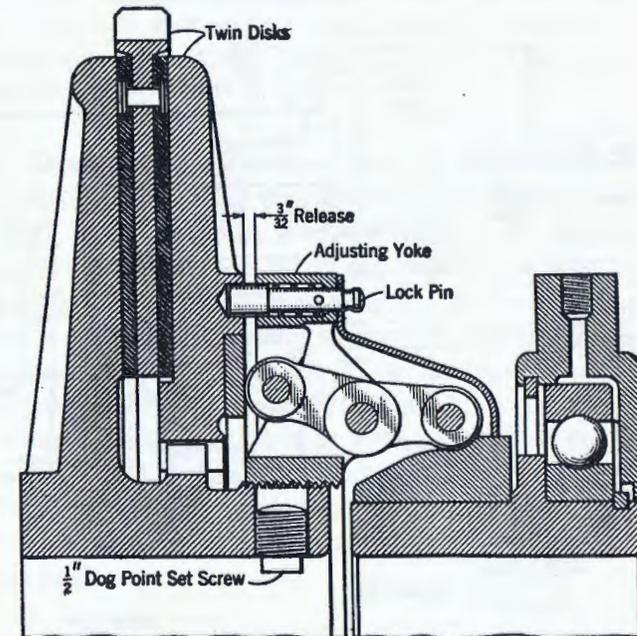

FIG. 11. FAN-DRIVE CLUTCH ADJUSTMENT
**66. Clutch Adjustment.**—The twin disk clutches on the cooling-fan drive, Fig. 11, can be adjusted by removing the